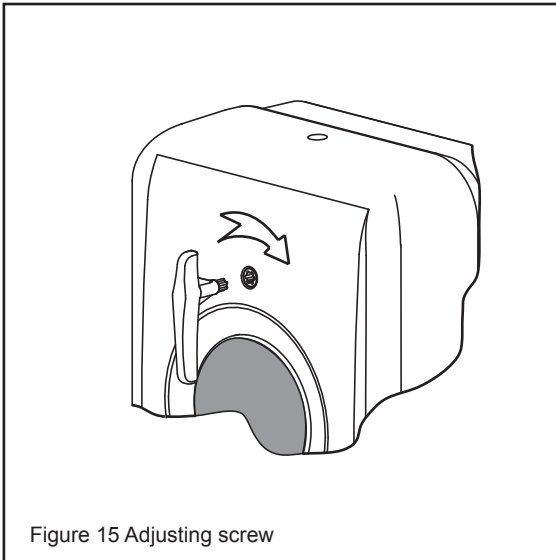

Figure 15 Adjusting screw
- 7.1 Before turning on the electricity and mains water to the hand wash, ensure the torx adjusting screw is turned fully anti-clockwise - see figure 15.